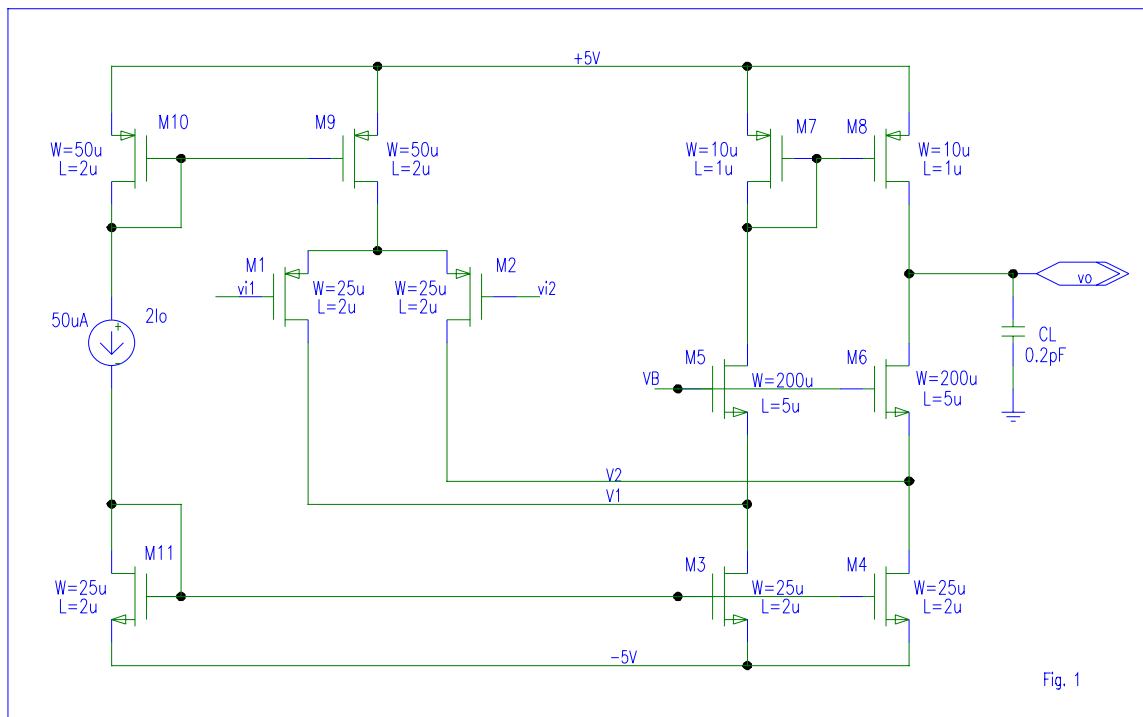

Fig. 1
- 1) Consider the circuit shown in Fig.1. Neglect extrinsic parasitic capacitances and body effect in your analysis.
- 3) The folded cascode amplifier of Fig.1 is used as a voltage follower as shown in Fig.3. Assume that the total load capacitance is $C_L=10\text{pF}$.